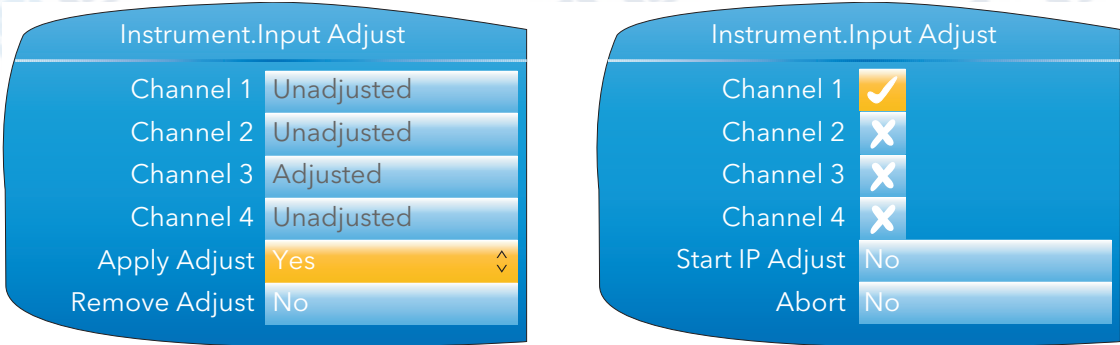

Figure 4.1.9b Channel adjustment procedure (1)
- 1. As shown in figure 4.1.9b, highlight the 'Apply Adjust' field, and operate the scroll key to enter edit mode. Use the up or down arrow key to select 'Yes'. Use the scroll button to change Channel 1 'cross' to a 'tick' (check mark). Similarly select any other channels which require adjustment.